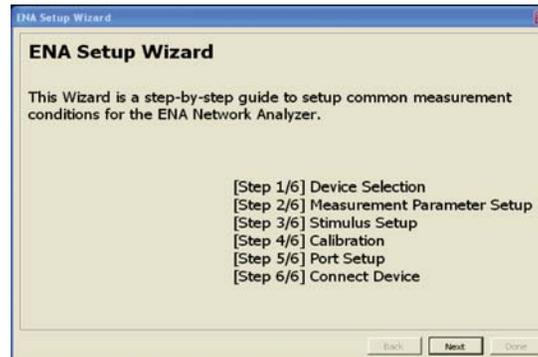

Figure 2. E5071C Setup Wizard
- a. Press [**Macro run**] and wizard window is shown (Figure2)